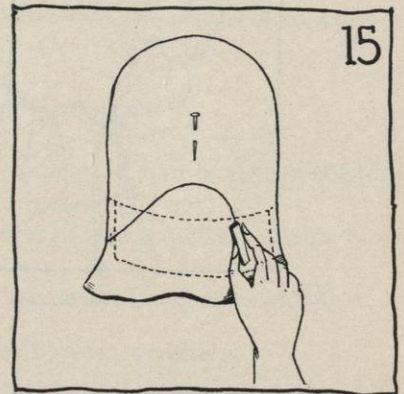

FIG. 15.
b. Use either pins or marking chalk to mark the headsize of the block, if the crown is going to be used full depth; or to mark altered headsize line as desired; or to mark shaped headsize line for a turban; or to design cuts or tucks if desired (see Figure 15). Pencil marks will soil the felt.
c. Place a pin in the front of the crown (see Figure 15).